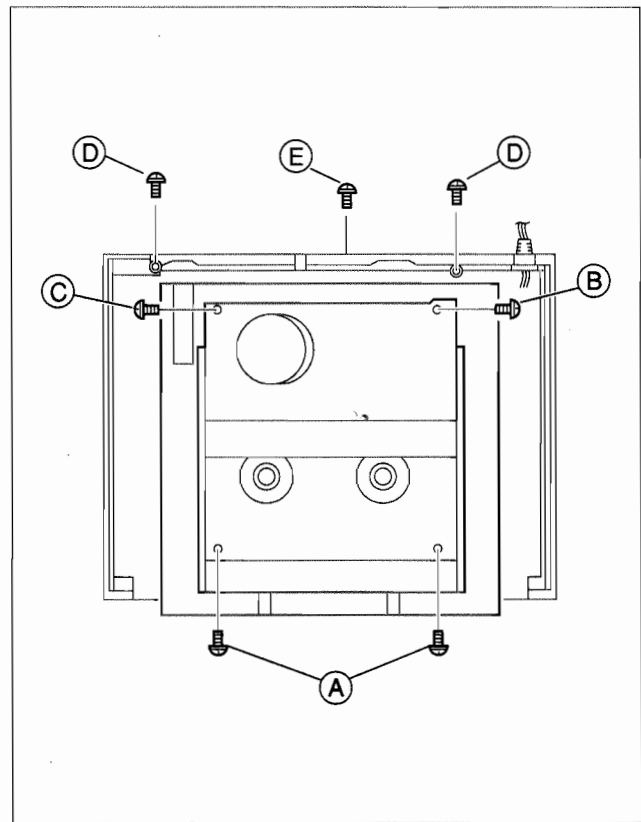

Fig. 1-4-1
- (1) Remove the Top cover, Bracket, Front panel assembly and JACK board assembly. (Refer to page 1-2 of 1.3 DISASSEMBLY/ASSEMBLY METHOD.)
- (2) Lower the cassette holder, and make the preparations required in order to remove the screws from the Mechanism assembly. (Refer to the "Procedures for Lowering the Cassette holder assembly" on pages 1-3 of 1.3 DISASSEMBLY/ASSEMBLY METHOD.)
- (3) Take out 2 screws (A), 1 screw (B) and 1 screw (C) as shown in Fig. 1-4-1.
- (4) Remove the flat wires from CN3011 and CN7504 on the Main board assembly.
- (5) Take out 2 screws (D) and 1 screw (E) as shown in Fig. 1-4-1.